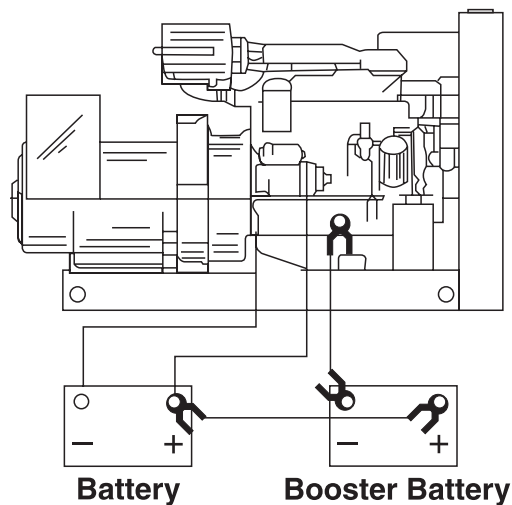

Figure 10: *Booster Battery Connections*
3. First, connect the positive (+) terminal of the booster battery to the positive (+) terminal of the main battery. Then, connect the negative (–) terminal of the booster battery to ground on the engine block (Figure 10).